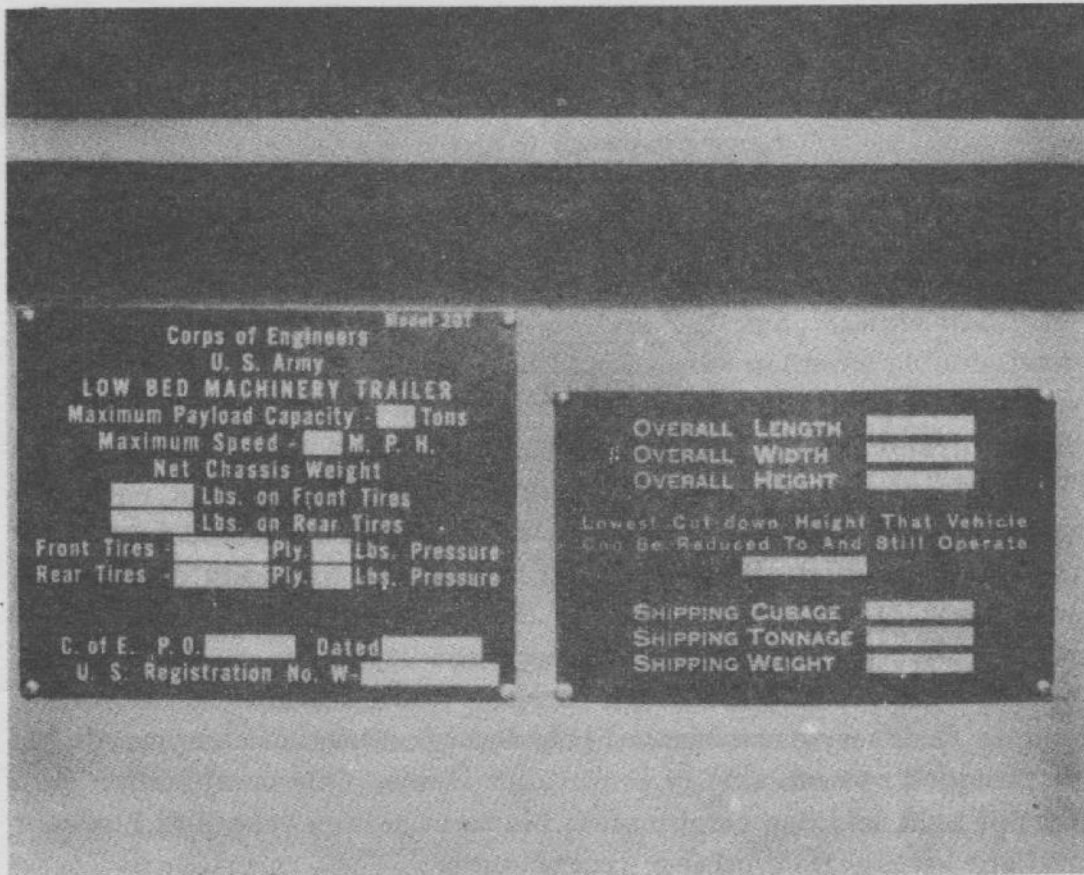

FIGURE 5. SEMITRAILER IDENTIFICATION PLATE
(1) **IDENTIFICATION** (figs. 5 and 6)—The semitrailer and dolly can be identified by its low drop-frame construction. The name plates on the semitrailer are located on the left side of trailer main frame ahead of gooseneck. The dolly name plate is attached to rear crossmember of dolly frame.